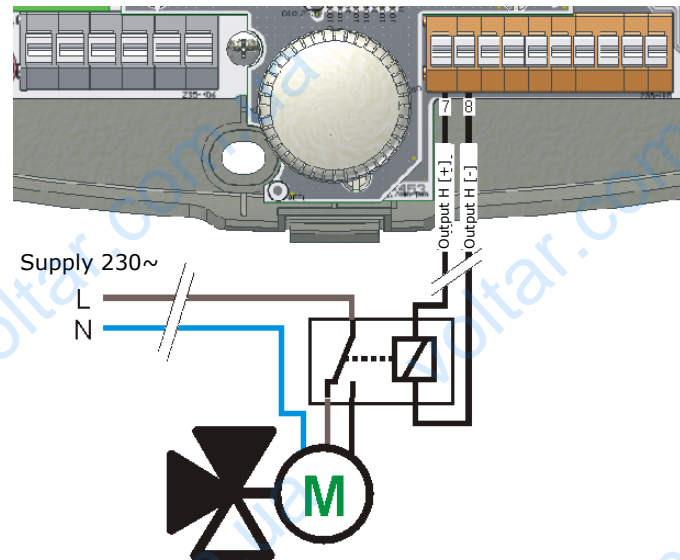

**Fig. 17.10 Connection of relay to H output.**
For a heater connection, use relay connected as shown in Fig. 17.10. Wire that connects the controller and transmitter must not have resistance bigger than 1Ω (see Table of wire lengths and resistances in the section on wire length compensation 20.2.1).
- 1. Unipolarly with return spring:** such valve connect to **H** output of the controller through a relay, like in Fig. 17.10